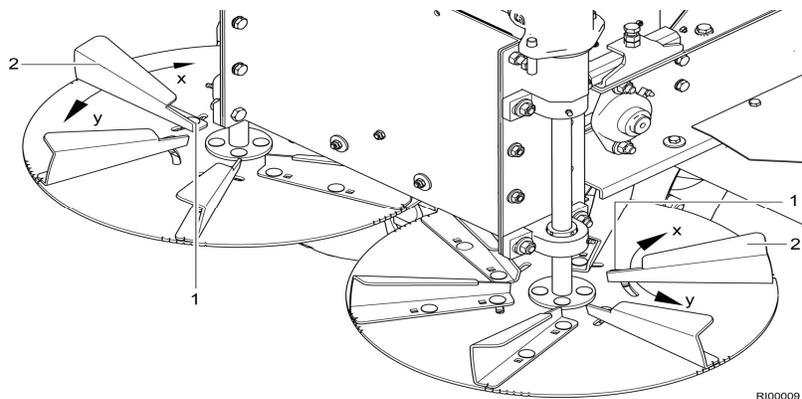

Fig. 47 Adjusting the throwing vanes
1. Loosen the bolted connections (Fig. 47/1) in the slotted holes of every second throwing blade (Fig. 47/2). To do this, loosen the nuts of the bolted connections underneath the spreader discs.
2. Swivel every second throwing blade (Fig. 47/2) in direction "X".
3. Tighten the bolted connections (Fig. 47/1) again. To do this, tighten the nuts of the bolted connections underneath the spreader discs.
2. Swivel every second throwing blade (Fig. 47/2) in direction "Y".